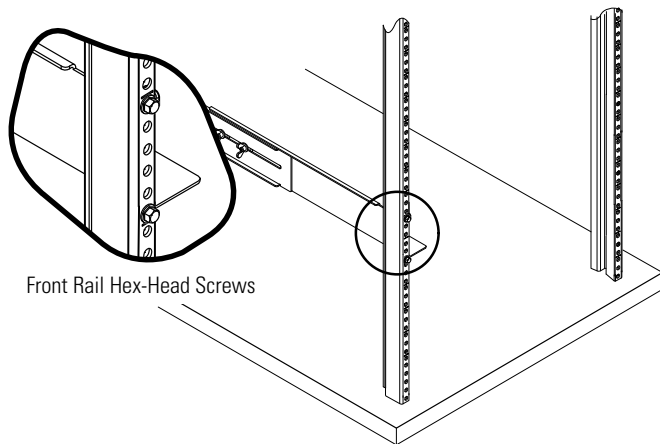

Figure 4. Securing the Front Rail
3. Secure the rail to the front of the rack with two hex-head screws (see Figure 4).